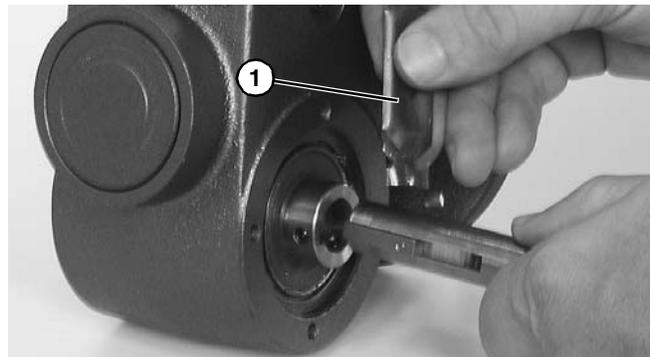

Figure 27
- Apply anti-seize (**Figure 27, item 1**) to shaft.